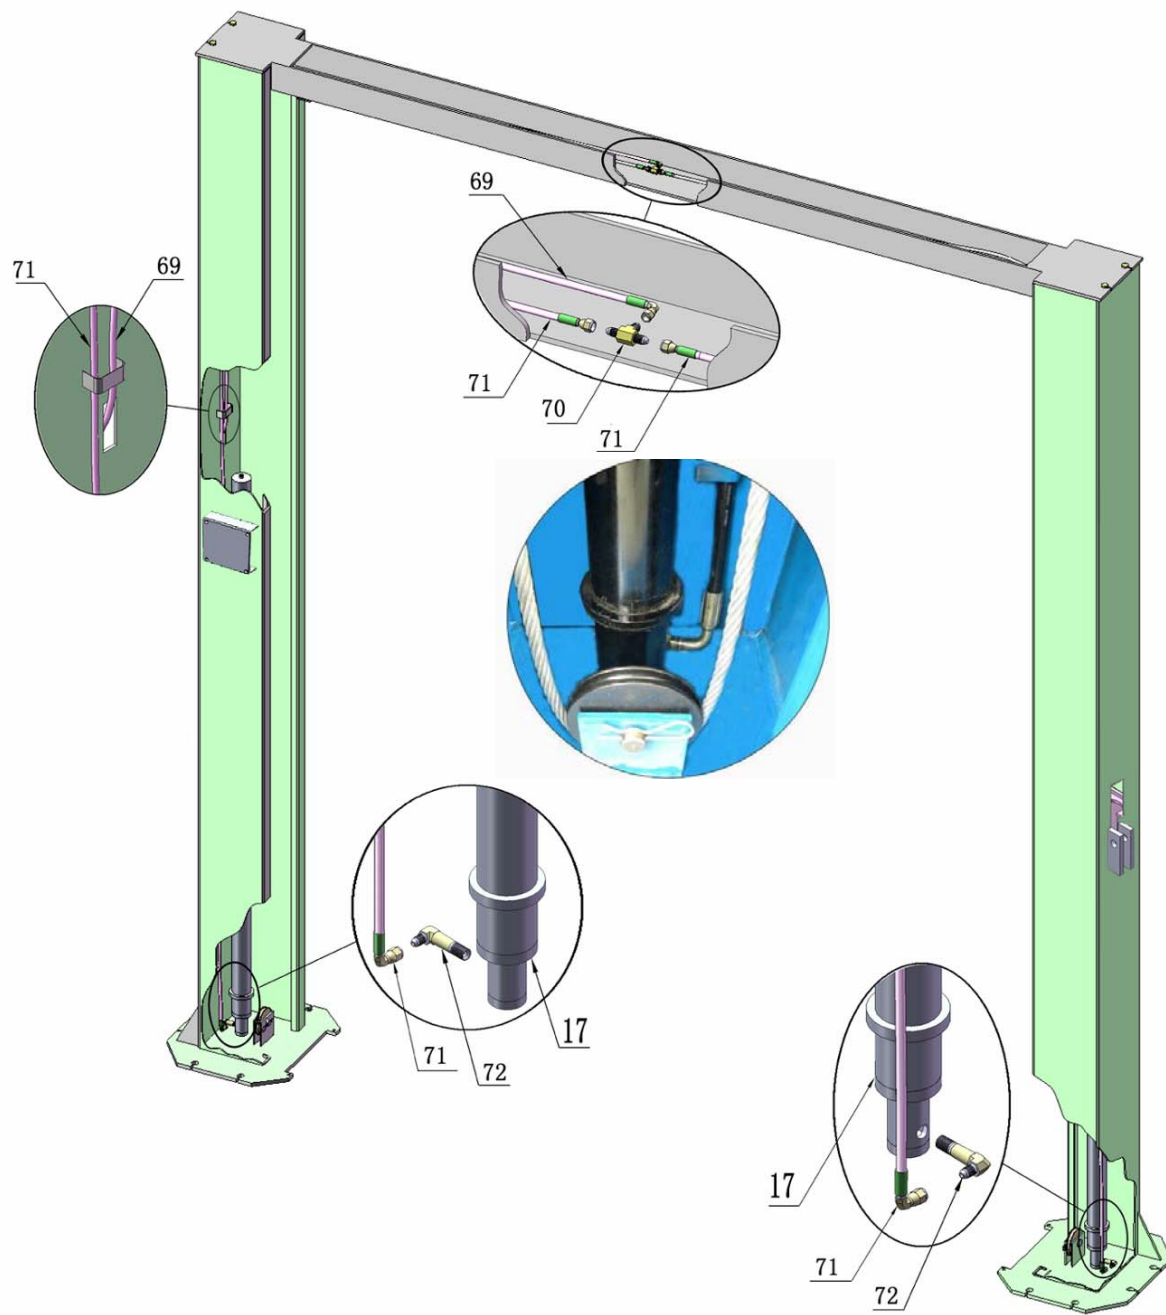

Fig. 25
1. For model W-10C (See Fig. 25).